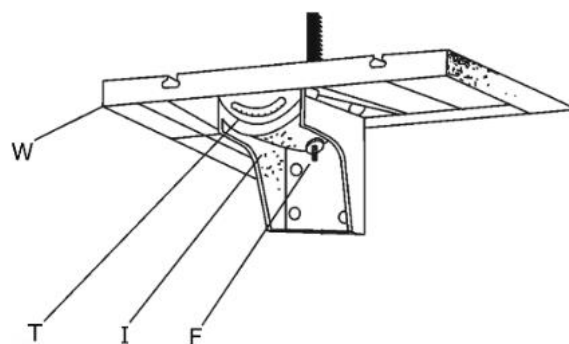

Fig. 18: Tilting the table
- Step 2: Open the nut on the fastening screw (Pos. F, Fig. 18).
- Step 3: Swivel the worktable (Pos. W, Fig. 18) to the desired position using the angle scale.
- Step 4: Tighten the fastening screw (Pos. F, Fig. 18) again.